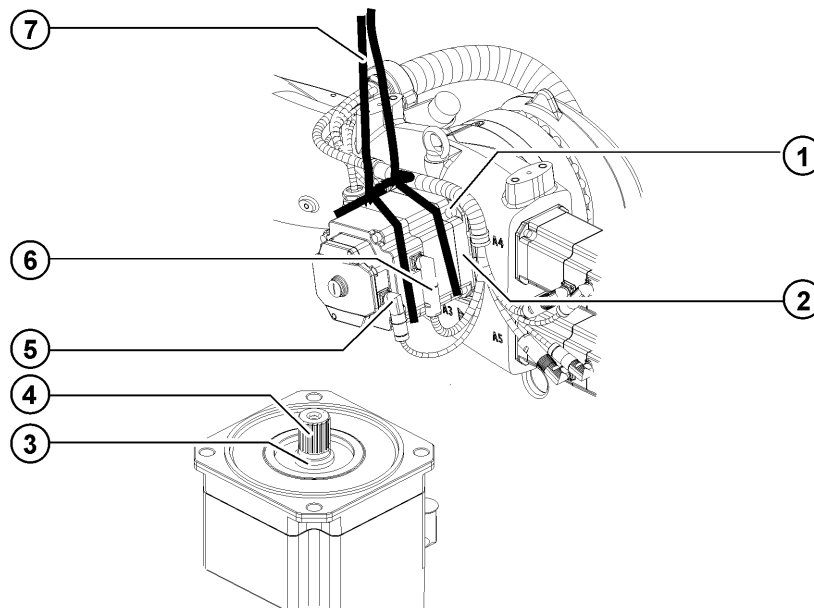

Fig. 11-8: Installing motor A3
2. Clean the tothing of motor A3 and gear unit before installation and apply a thin but continuous coat of Microlube GL 261 grease (>>> Fig. 11-8).